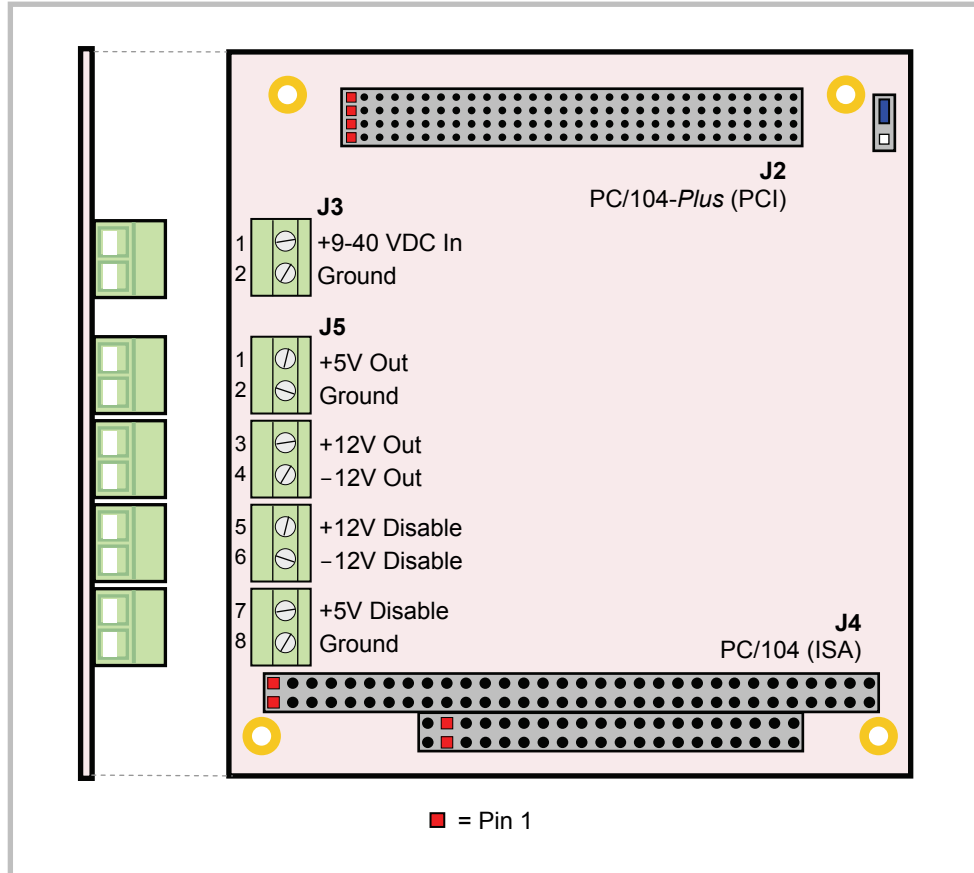

Figure 5. EPM-PS1 Connectors – Top Side
1. The PCB origin is the mounting hole to the lower left, as oriented in Figure 5.